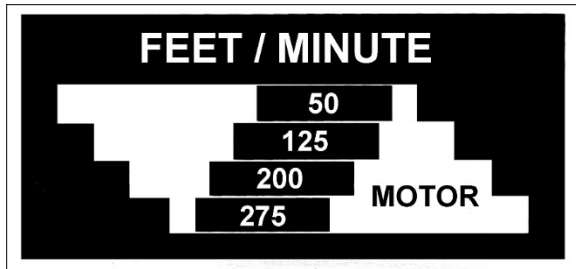

Figure 7-5: belt positioning
3. Slip belt into proper pulley grooves, according to chart inside pulley cover (also shown in Figure 7-5).
4. Lift handle (P) to apply tension on belt and tighten knob (N).